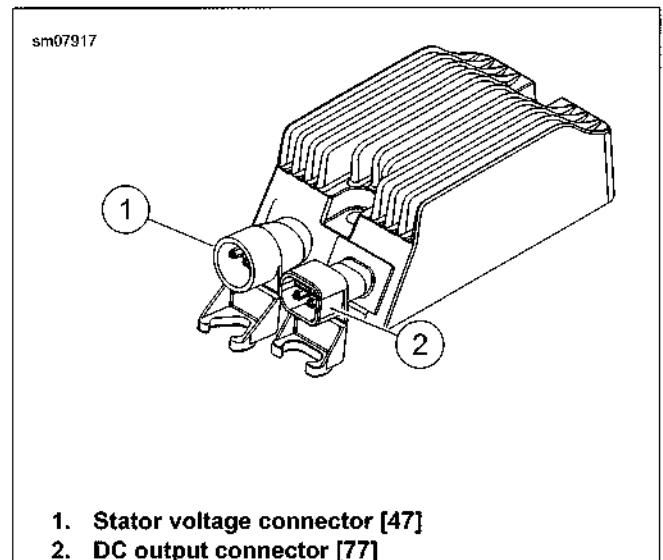

Figure 6-85. Regulator Connectors
2. See Figure 6-85. Plug socket connector [47] into regulator pin connector (1). Lock in place with external locking latch.
3. Plug socket connector into regulator DC output connector (2). Lock in place with external locking latch.